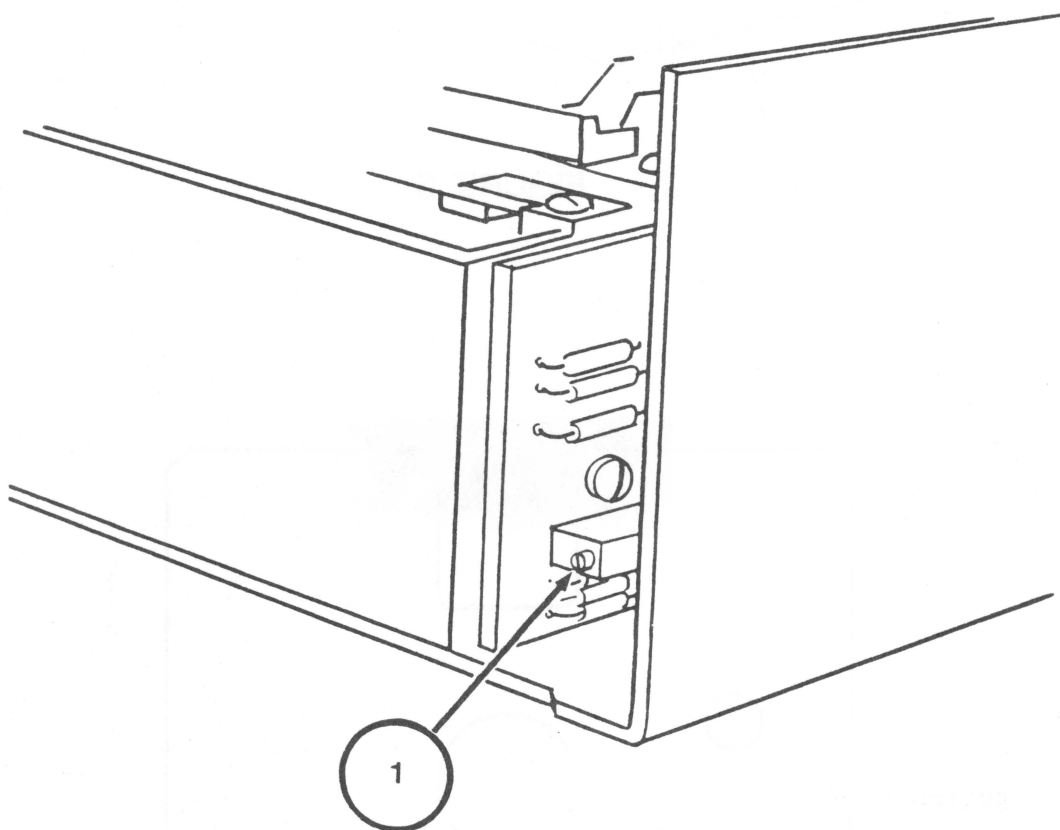

FIGURE 4
10. Look at the BACK of the drive mechanism. Locate the Motor Control Card, mounted on edge, and note the small trimpot with a screwdriver adjustment on the side (Figure 4, #1).